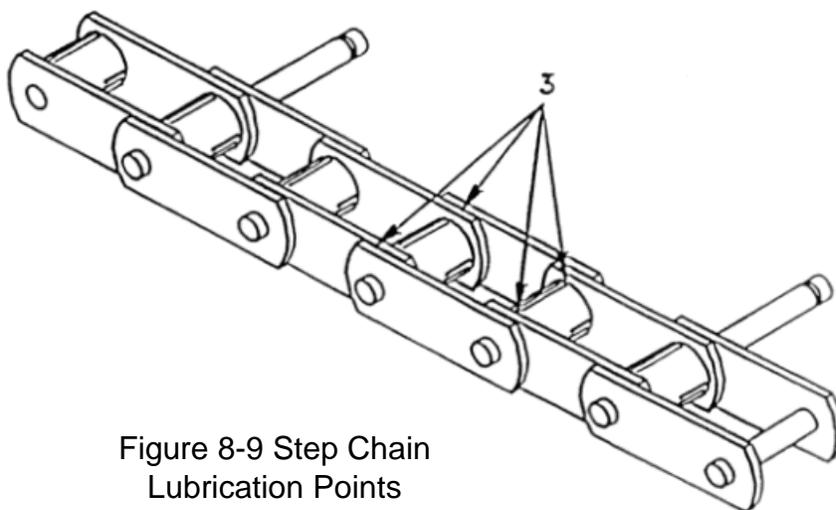

Figure 8-9 Step Chain
23. The arrows in figure 8-9 below are pointing directly at what areas for lubrication? Between the _____, and between the _____.